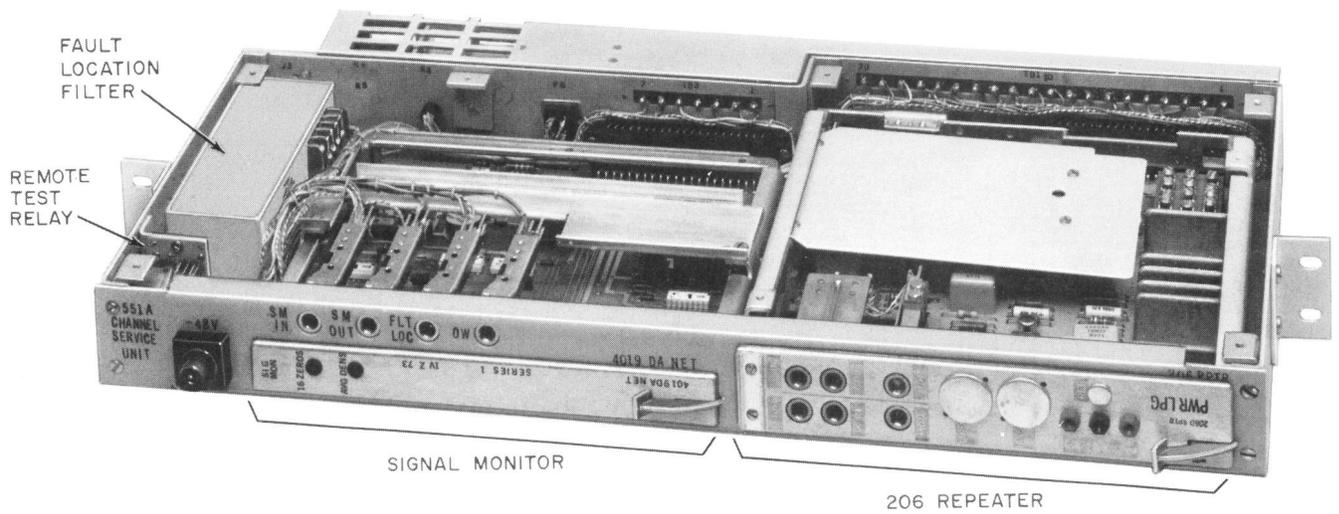

Fig. 3—551A CSU—Cover Removed
3.03 A 598-type fault location filter is provided on an optional basis (Fig. 3). The fault location filter is not part of the 551A CSU and must be ordered separately. The particular code of the fault location filter is determined by the T1 line installation. To install the fault location filter, remove the top and rear covers and the 4019DA circuit pack. Connect the four spade tipped leads (stored in the chassis) to the terminal board on the filter. Dress the opposite ends of these wires through the holes provided in the chassis and terminate the spade tips on TB3. Refer to Table A, R option, for correct wiring. Discard the screws supplied with the 598 fault location filter and use the screws supplied with the CSU. Locate the filter in the proper position and secure by installing one screw in each standoff.